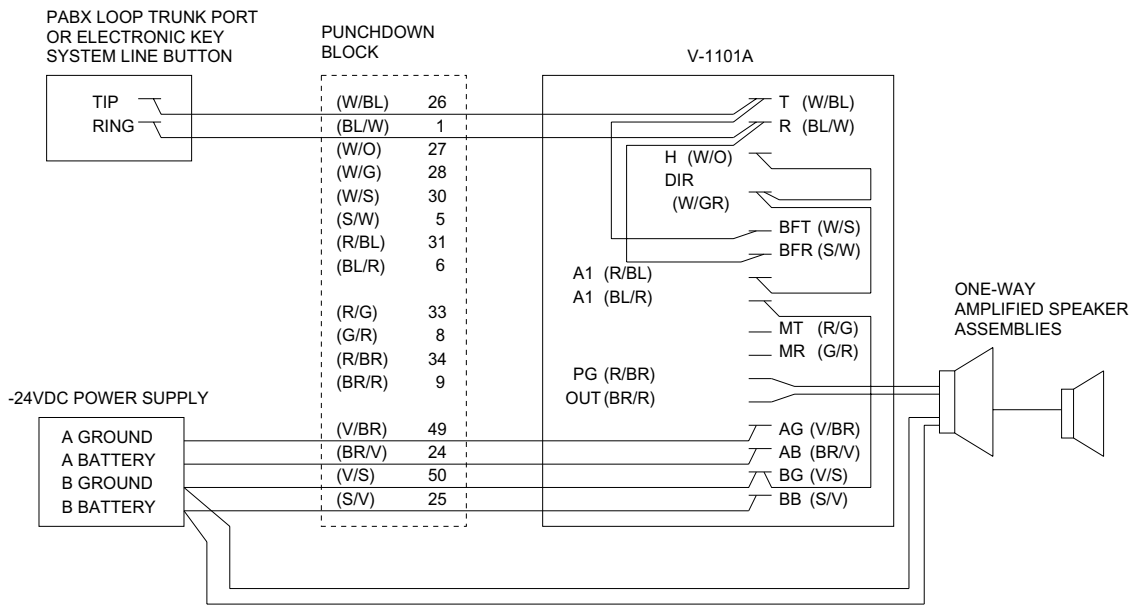

FIGURE 3
- \_\_\_ 1. Electronic key system line key access: Proceed to Figure 3.
- \_\_\_ 2. PABX loop trunk port access: Proceed to Figure 3.